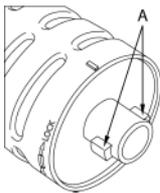
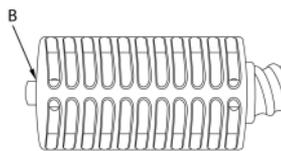

FIGURE 12
FIGURE 13
4. Attach Steam Jet Nozzle (FIGURE 12) to Female end of Flexible Steam Hose (FIGURE 13). Insert cylinder on back of Steam Jet Nozzle into hole in Female end of Flexible Steam Hose. Insert it so that two tabs on sides of cylinder (FIGURE 12-A) fit into two tab holes on sides of main hole (FIGURE 13-B).